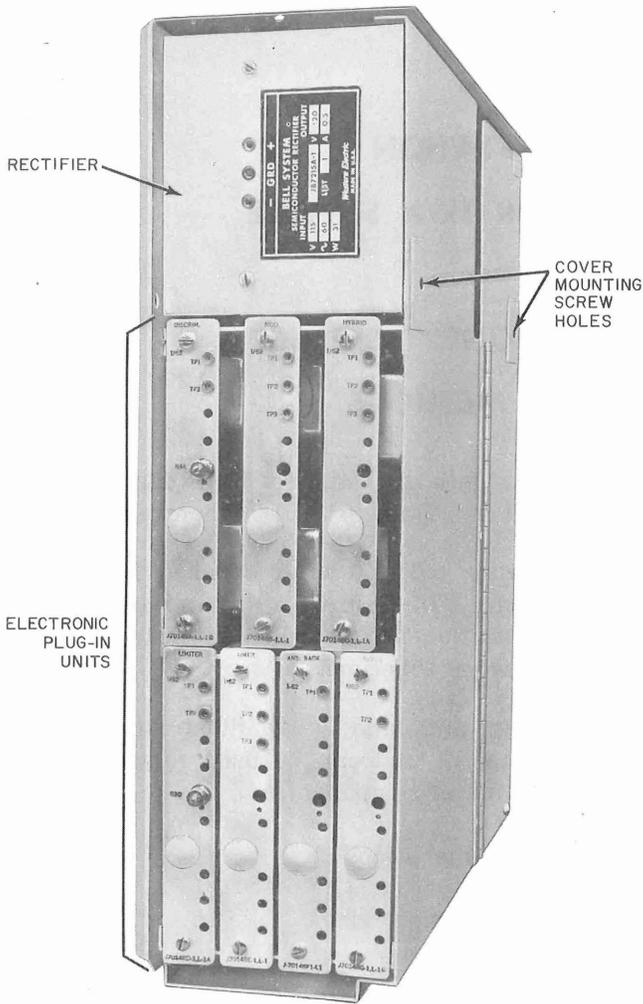

Fig. 1—Data Set 101A—Front View—Cover Removed
1.06 Fig. 1, 2, and 3 are illustrations of the data set and can be used to identify the following major components: